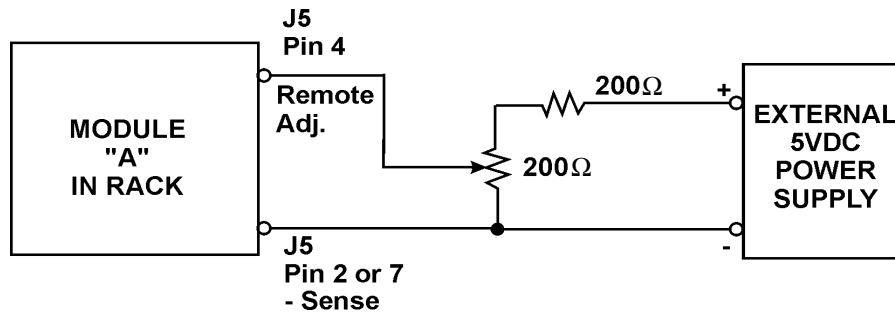

Figure 11. Checking Remote Adjust Input
- 20.10 Checking the Remote Adjust Input.** If the remote adjust function is to be used, do the following test. Connect a 200-ohm resistor and 200-ohm potentiometer to an external 5V power supply as shown in Figure 11. Connect the wiper arm of the pot to the Remote Adjust input, J5 Pin 4 and the -5V from the supply to -Sense J5 Pin 2 or 7. With the voltage at the wiper arm set to zero, check the output voltage of the module with a digital voltmeter. For a 48V unit it should be approximately 40V and for a 24V unit it should be approximately 20V. Next, adjust the wiper arm to +2V and check the output voltage of the module. For a 48V unit it should be approximately 58V and for a 24V unit it should be approximately 29V.